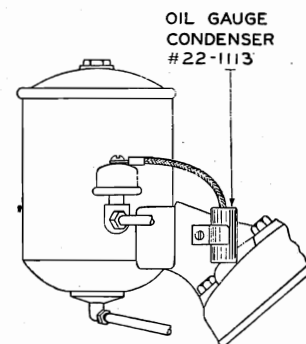

FIG. 6
4. Install the condenser No. 22-1113 on the oil gauge unit. (Fig. 6.)